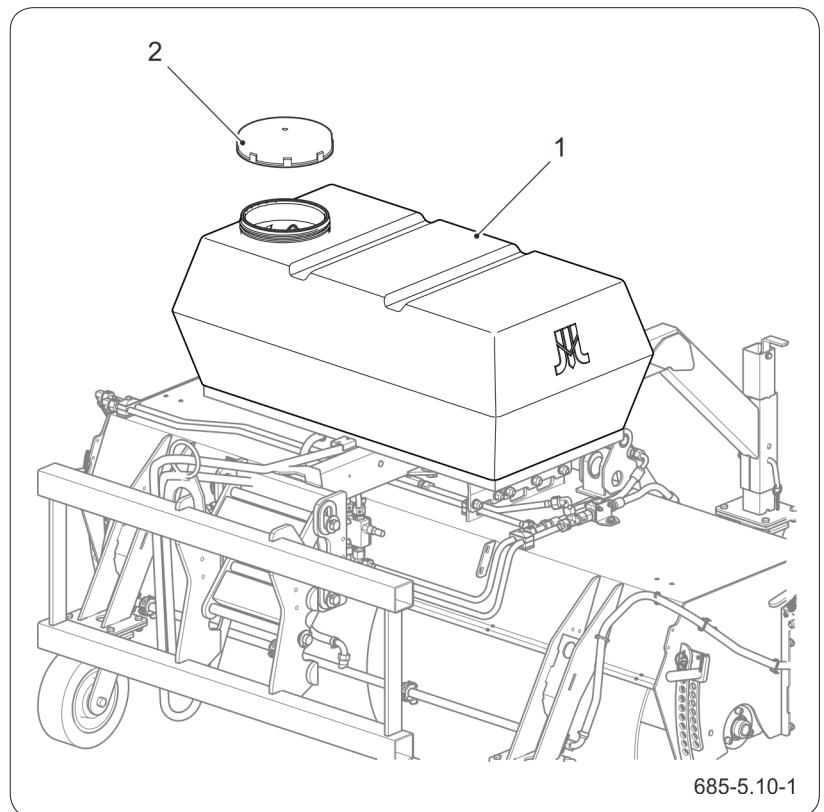

Figure 5.19 Filling the water tank of the sprinkler system
(1) water tank (2) filler plug
The tank (1) is filled with water through the filler hole, after unscrewing the cap (2) with the vent (Figure 5.19).